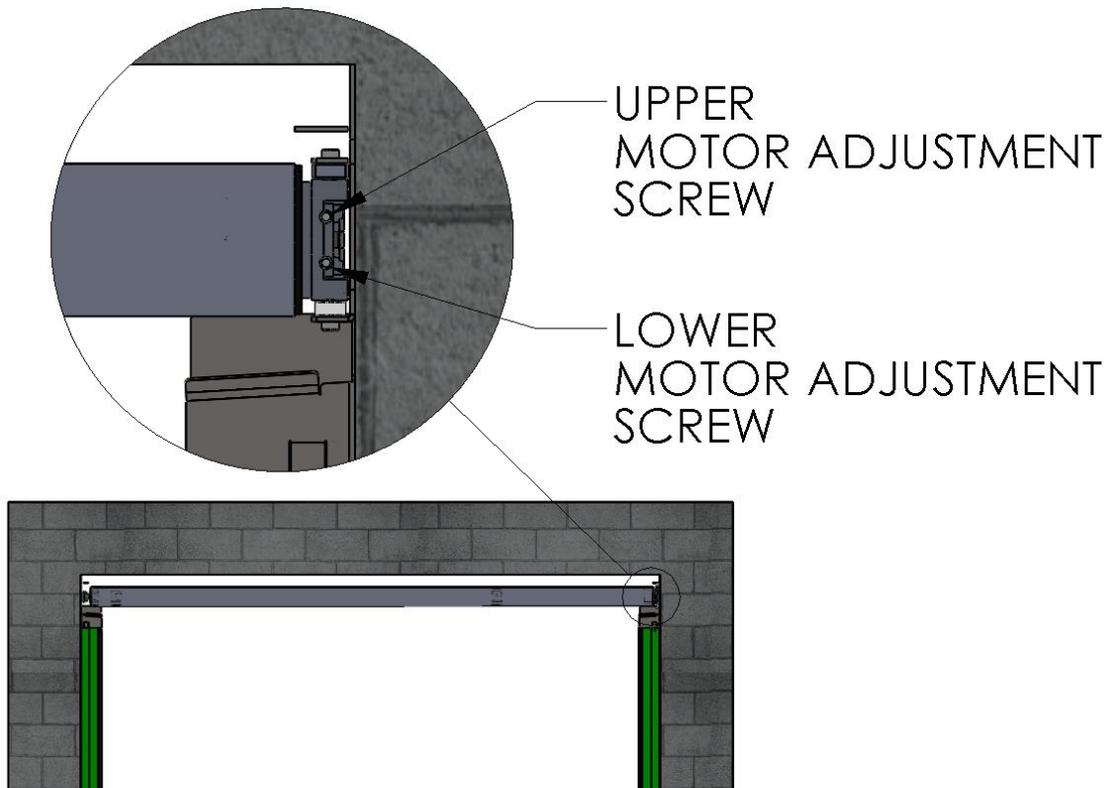

Figure 7 Adjust Motor Stop Points
3. Have a qualified Electrician mount the switch control box, route, and connect all wiring before applying power to the assembly. (Figure 7 Adjust Motor Stop Points)
4. Always, **FIRST TOGGLE THE DOOR DOWN** toward the closed position. Observe the position that the lower limit stops the door and adjust accordingly via the lower hex set screw at the end of the motor. (Figure 7 Adjust Motor Stop Points) Run the door partially upward, stop, and then close again a few times back and forth to make finer adjustments for the closed position as desired.
5. Now open the door, and note the upper stop point. Adjust in the same way using the upper hex adjustment set screw. (Figure 7 Adjust Motor Stop Points) Repeat a few times until the desired upper stop position is finally achieved.